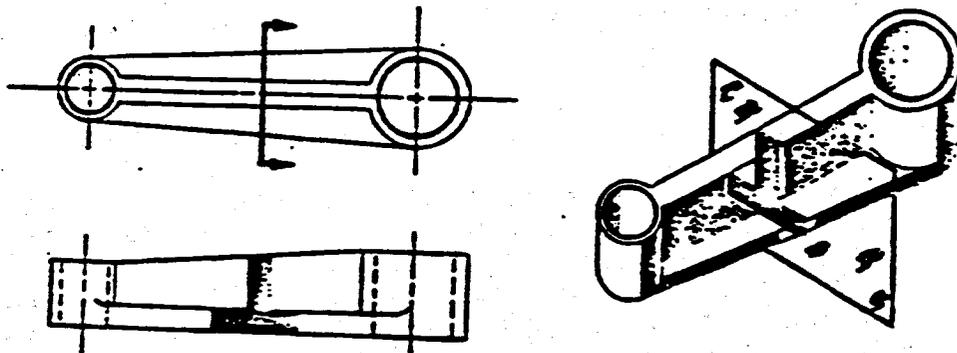

Fig 1-27. Revolved section.
- (4) **Revolved section.** To eliminate drawing extra views of rolled shapes, ribs, and similar forms, a revolved section is used. It is a drawing within a drawing, and it clearly describes the object's shape at a certain cross-section station or point. The sectional view of the rib in figure 1-27 has been revolved so that you can look at it head-on.